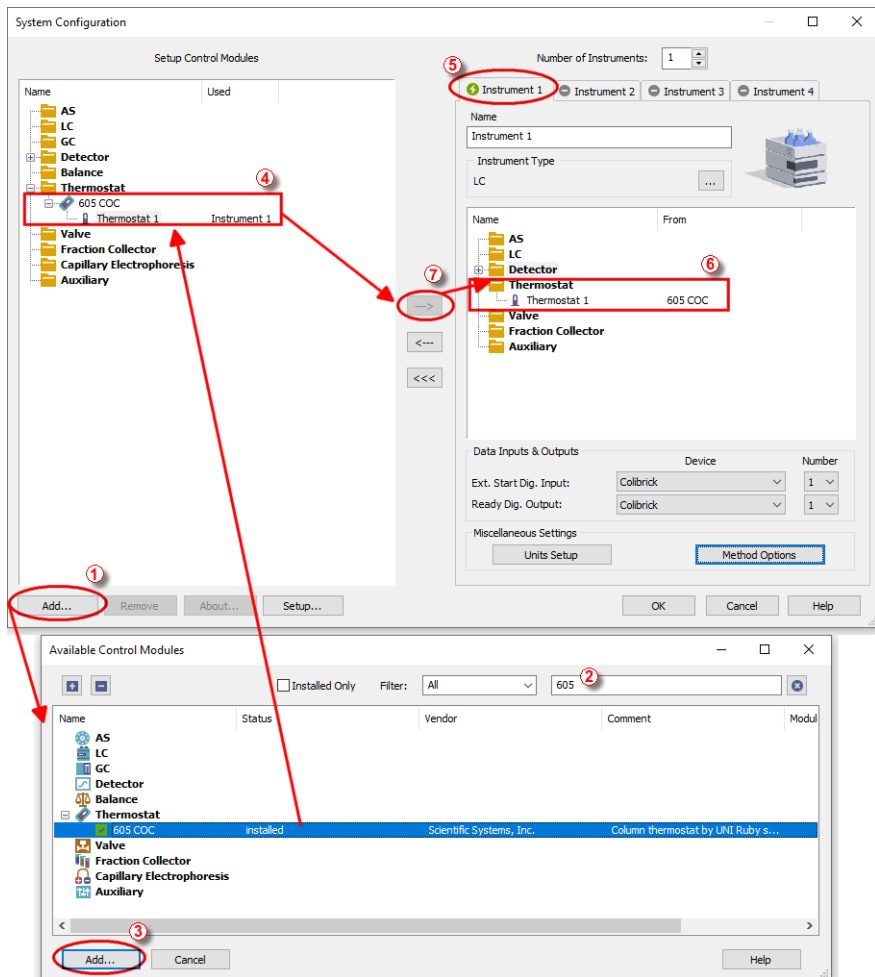

Fig 3: How to Add SSI 605 module
- Press the **Add** button (1 on Fig 3 on pg 4.) to invoke the **Available Control Modules** dialog.
- You can specify the search filter (2) to simplify the finding of the driver.
- Select the correct item and press the **Add** (③ on **Fig 3** on pg 4.) button. Each device with already created UNI profile should have its own item named accordingly in the **Available Control Modules** dialog.